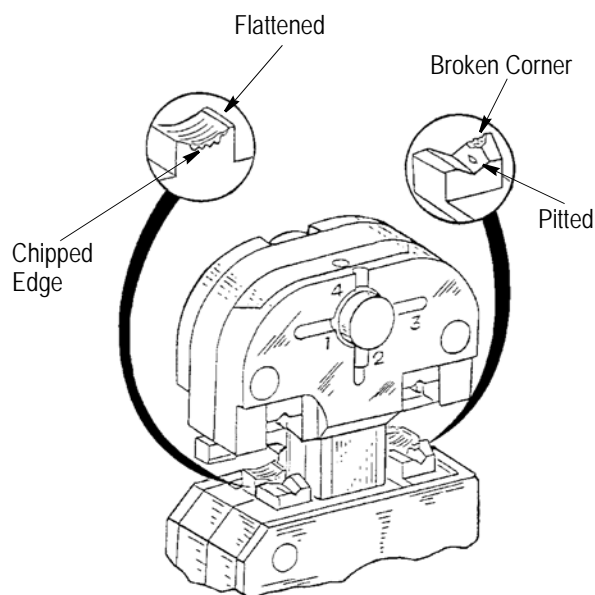

Figure 8
2. Visually inspect the die closure surfaces for flattened, broken, pitted, or chipped conditions. Although dies may gage within permissible limits, worn or damaged die closure surfaces are objectionable and can affect the quality of the crimp. Examples of possible damaged die closure surfaces are shown in Figure 8.